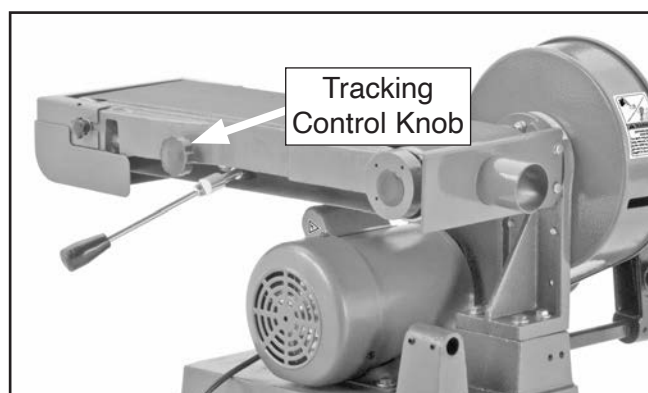

Figure 77. Tracking control knob.
4. Turn the sander **ON**, and using the tracking control knob (see **Figure 77**), carefully adjust the tracking in or out until the sanding belt is centered on the main roller (see **Figure 47**, **Page 28**).